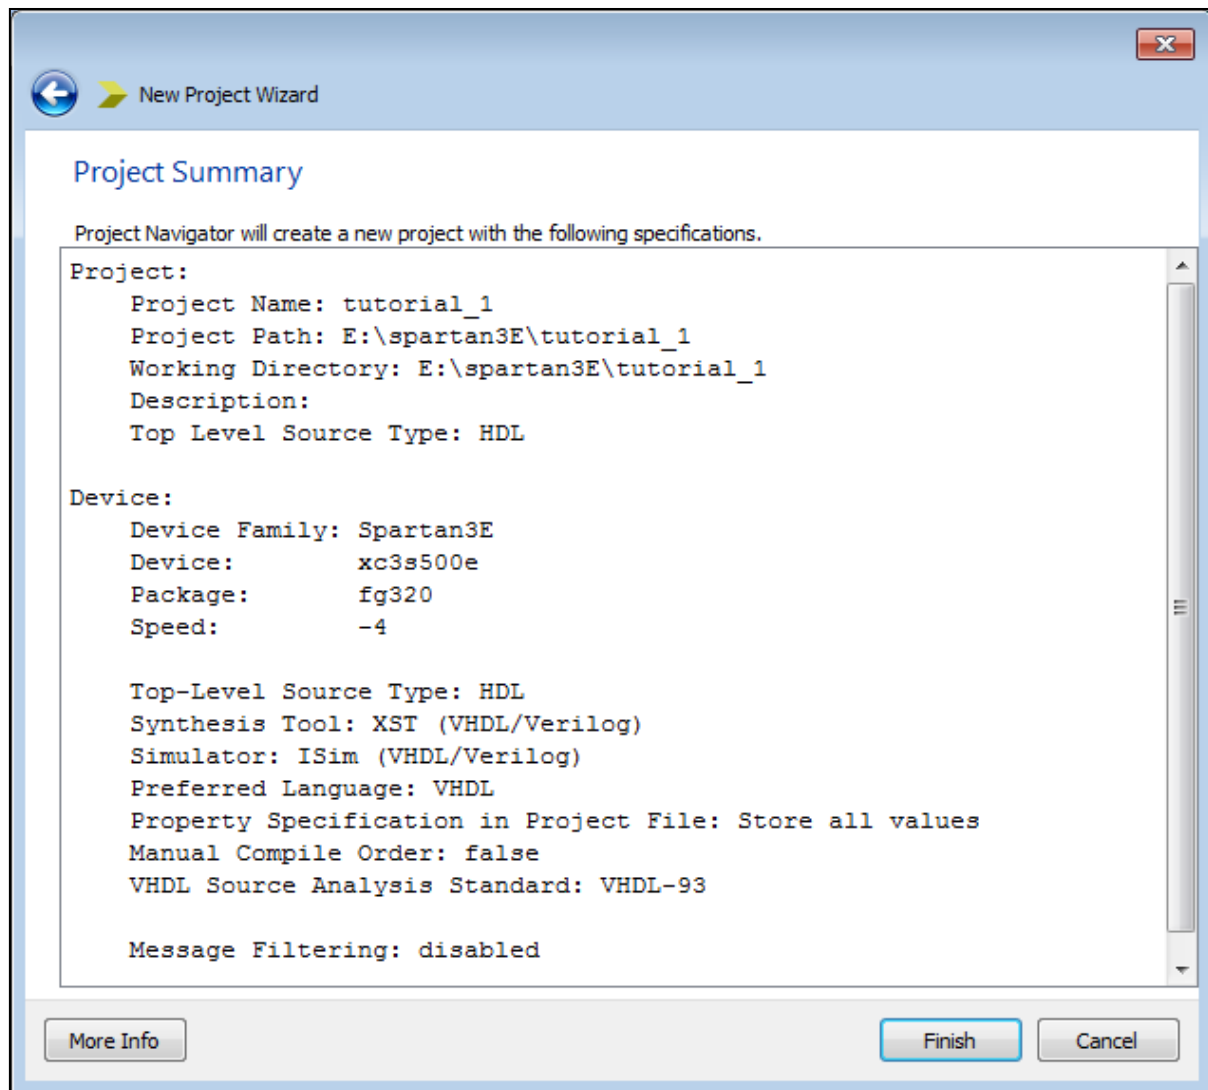

Figure 3.5: New Project Wizard, Project Summary Page.
7. Click **Next** to move to the **Project Summary** page, which will appear as shown in Figure 3.5.